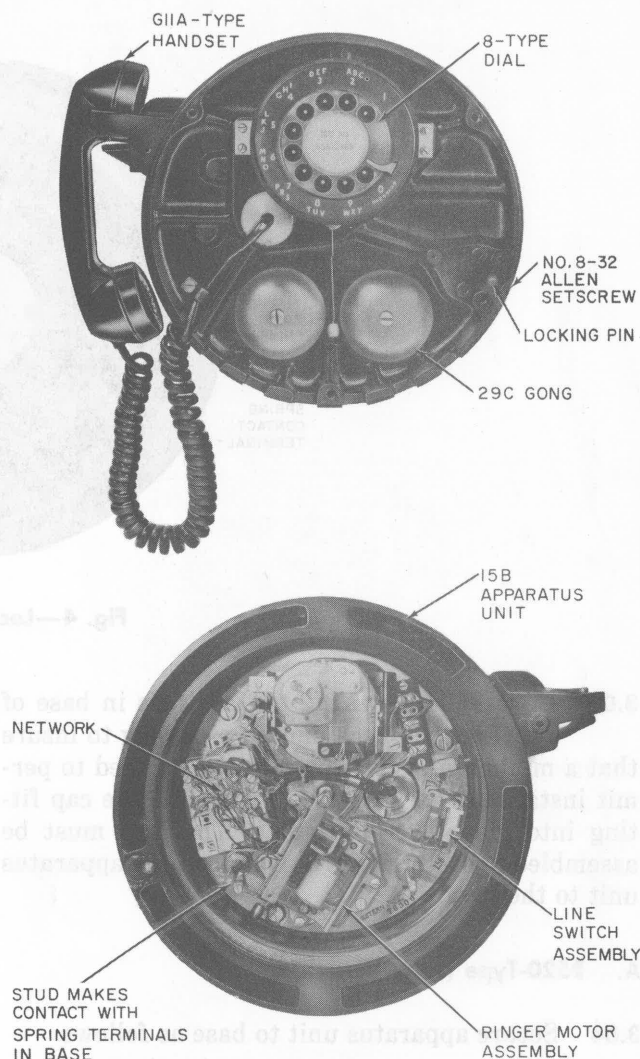

Fig. 3—Interior and Front View of 15B Apparatus Unit
2.05 The base (Fig. 3) provides an external projection to engage corresponding threads in the apparatus unit. It also provides spring-type contact terminals for line and ground conductors.
2.06 The apparatus unit, which screws onto the base, contains the telephone set components (Fig. 3). Three projecting studs located on the back of the apparatus unit make contact with the three spring terminals in the base, thus carrying line and ground connections into the unit. The earlier versions of the apparatus unit are equipped with a 23A lock and two keys. Keys are interchangeable with all 320-, 520-, and 2520-type telephone sets. The current versions of the apparatus unit are equipped with a No. 8-32 Allen setscrew (Fig. 1) which performs the same function as the 23A lock by engaging the locking pin, which then allows the cover to be secured. The early and current version sets cannot be locked unless the locking pin is engaged in the locking hole in base of set.